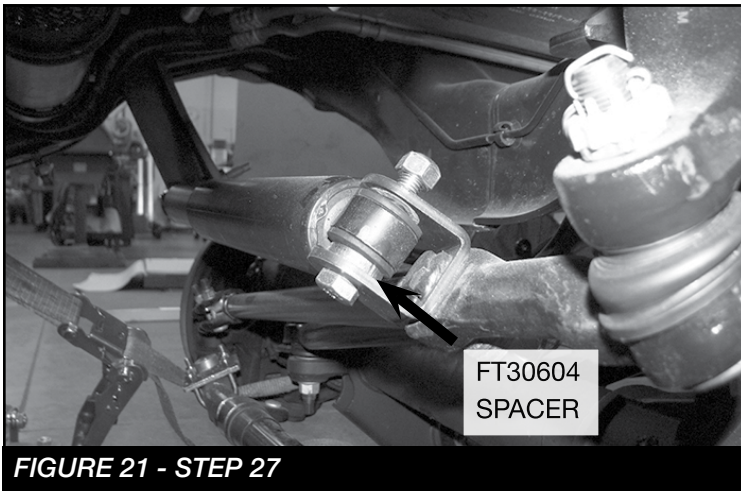

**FIGURE 19 - STEP 25**
25. **(PASSENGER SIDE)** Install FT30659 (Brake line bracket) to the factory brake line tab using the supplied 3/8" hardware (Use lower hole). Next, using the supplied rubber clamp and 1/4" hardware, attach the ABS line to the upper hole on the FT30659 bracket. Re attach to the frame using the factory hardware. Torque 3/8" & factory hardware to 52 ft-lbs. Torque 1/4" hardware to 14 ft-lbs. **SEE FIGURE 19**